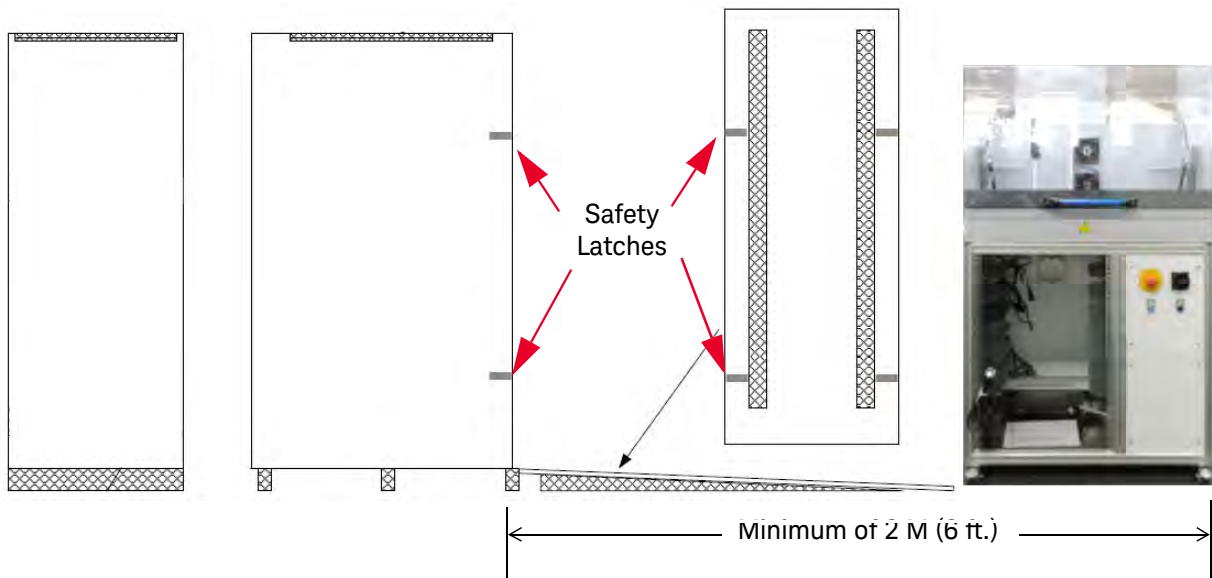

Figure 1 PD1500A Rack and Safety Enclosure Shipping Crate
- 1 Make certain you have adequate room to uncrate the Rack and Safety Enclosure. A minimum of 2 M (6 ft) is required in front of the crate (ramp+ Rack and Safety Enclosure). See Figure 1 below.
- 3 Carefully remove the ramp from the crate. Position the ramp so that the top of the ramp rests on the shipping crate foot as shown in Figure 1.